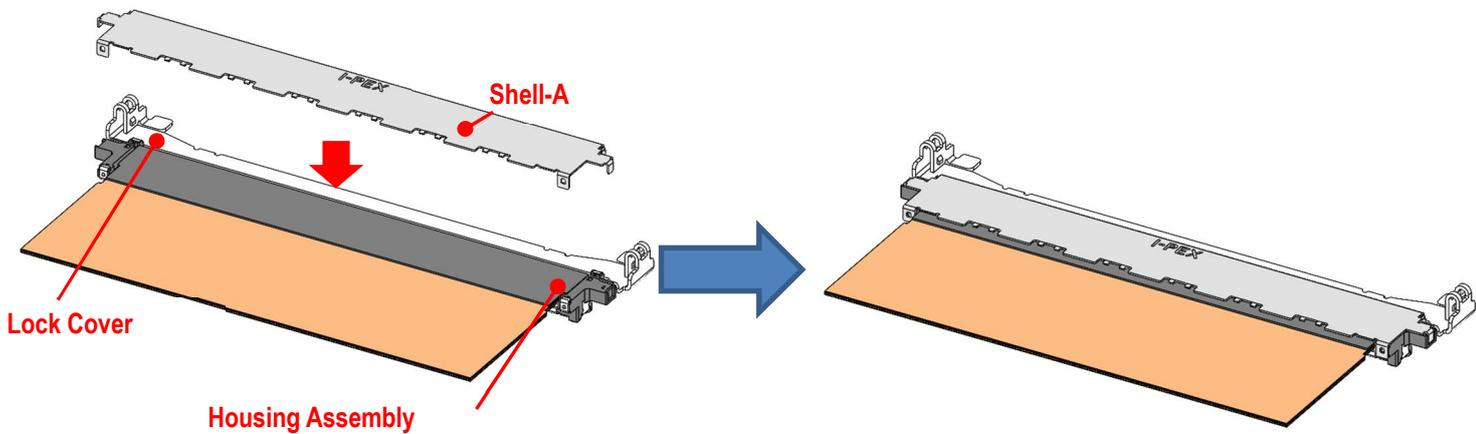

Fig. 13 Shell-A Assembly
- ① Assemble Shell-A onto the top surface of the Housing Assembly as shown in Fig. 13.